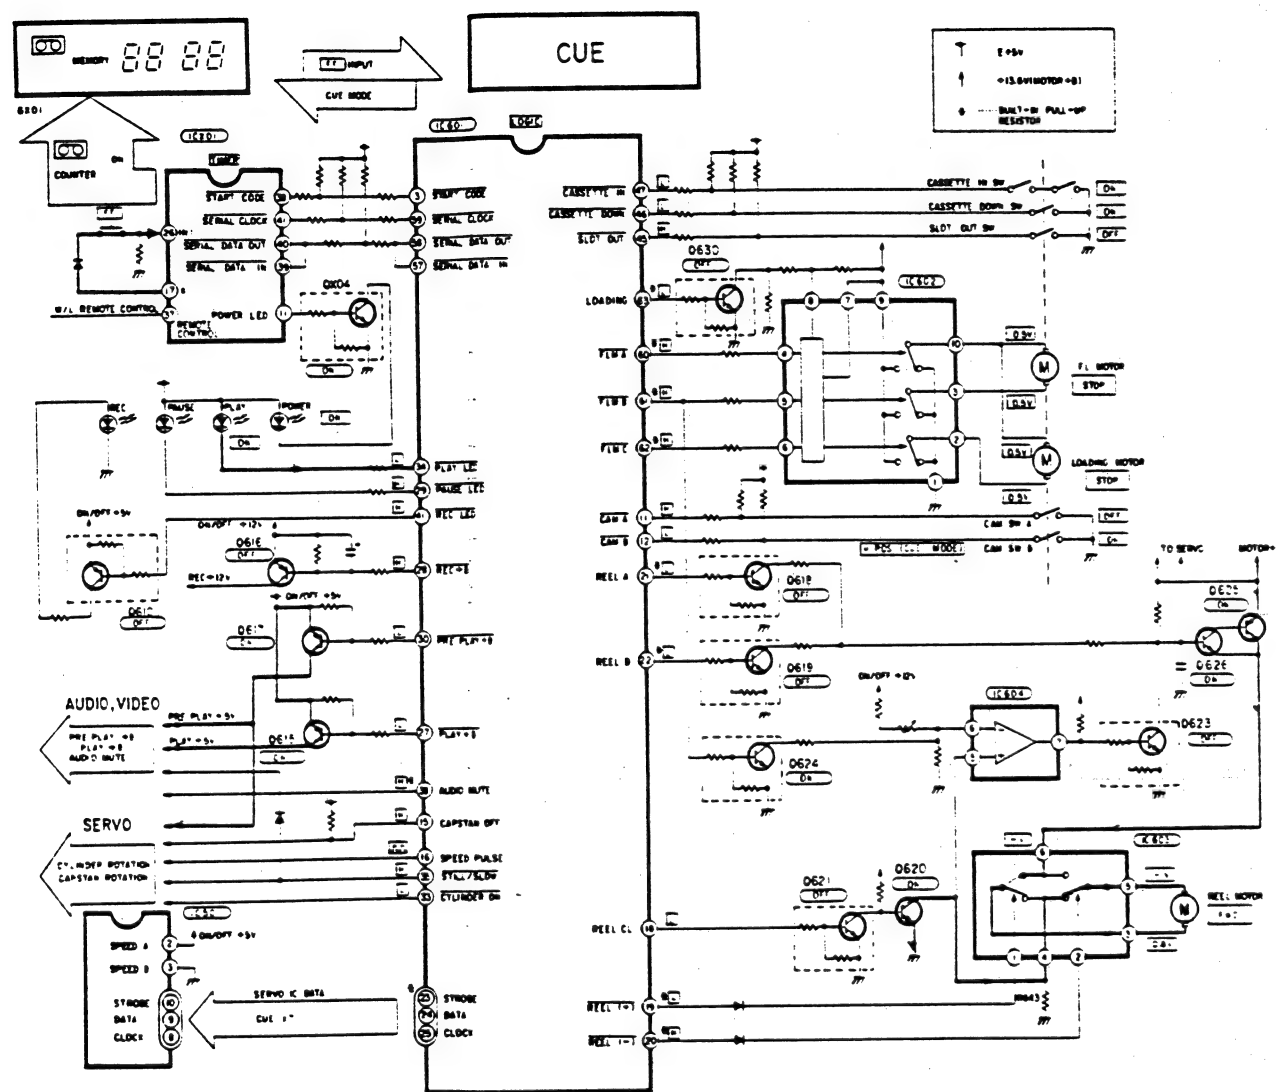

Fig. 3-4-10
3. Pin outputs of IC601 in the cue mode are shown in Fig. 3-4-10.